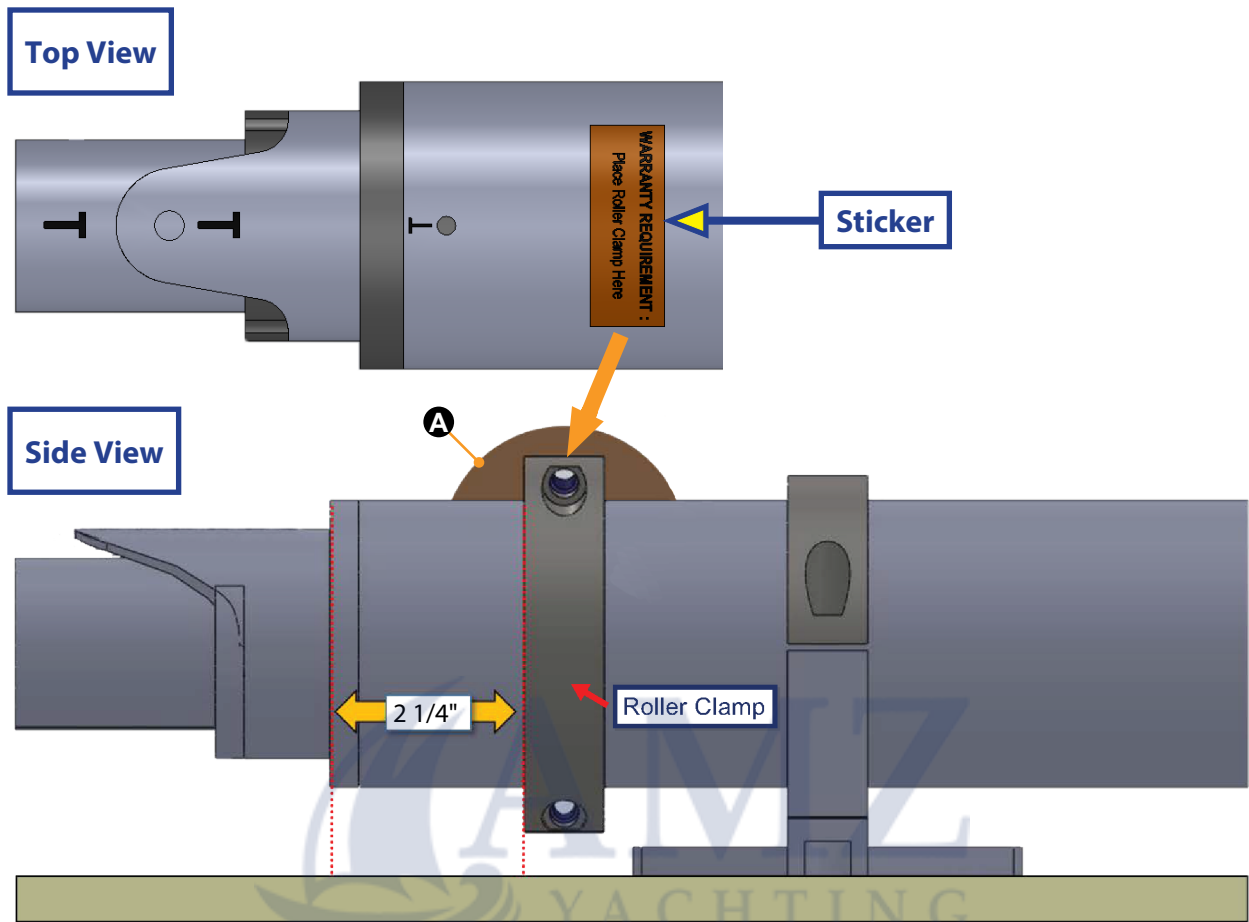

Fig.16
2. Make sure roller clamps are aligned over "Place Roller Clamp Here" stickers; 2 1/4" minimum in from the end of the actuator main tube (Fig.16).